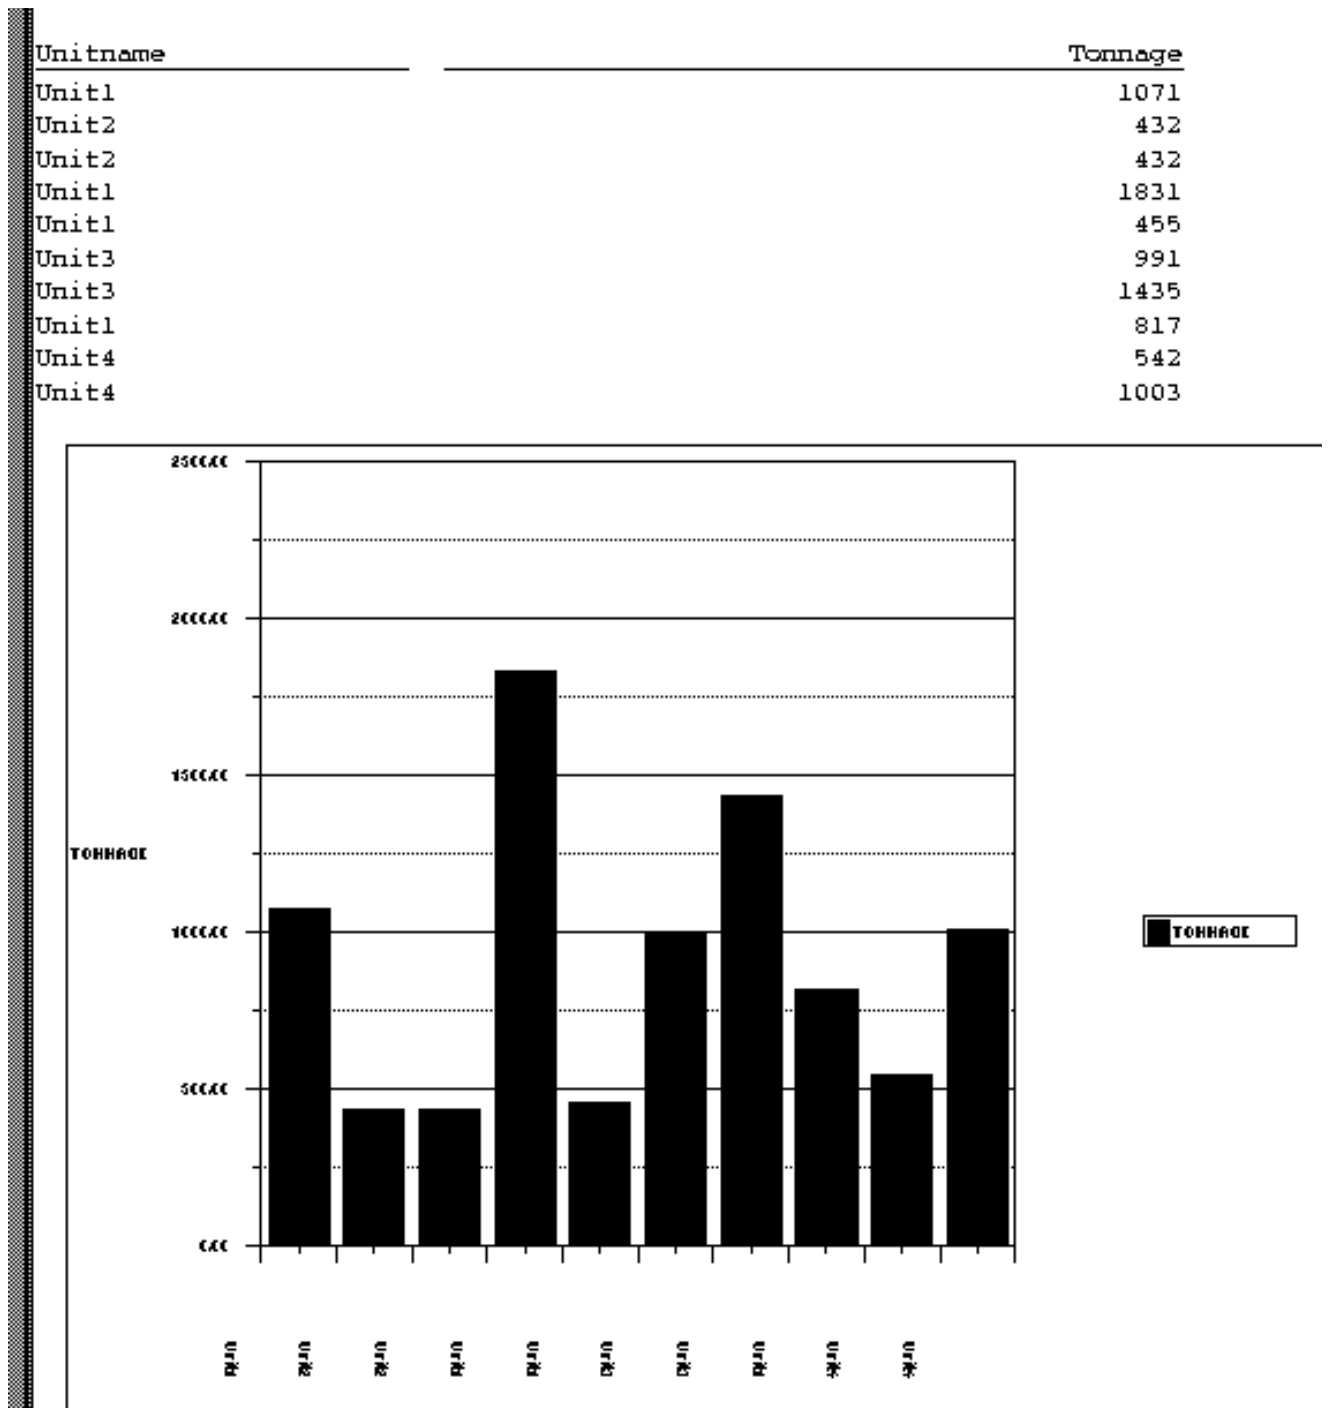

Figure 3-77. Report Preview
16. To test the report, choose **Run** from the **File** menu, and then press **Run** report in the Runtime Parameter form. This generates a preview of the report, Figure 3-77.